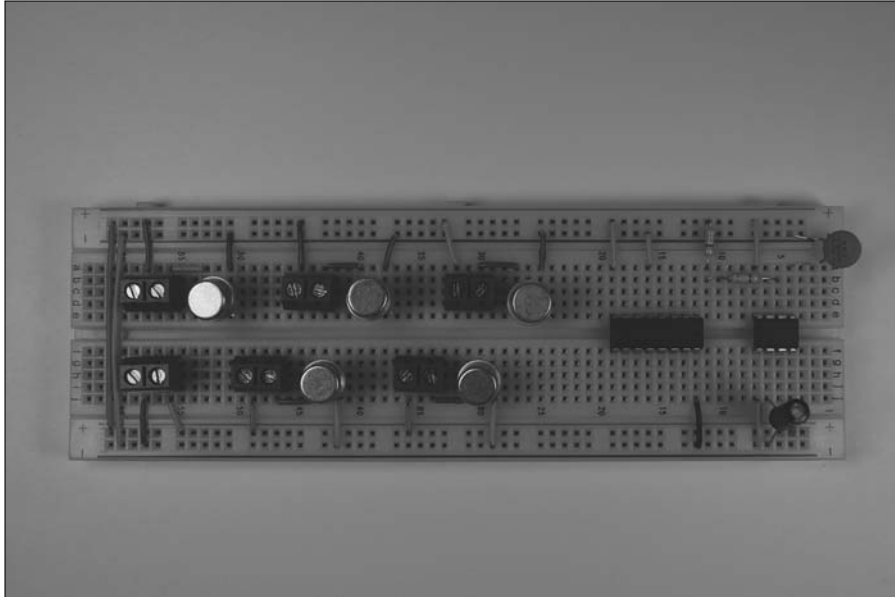

Figure 10-12:
5. Insert wires to connect the collector pin of the transistors to the terminal blocks, as shown in Figure 10-12.